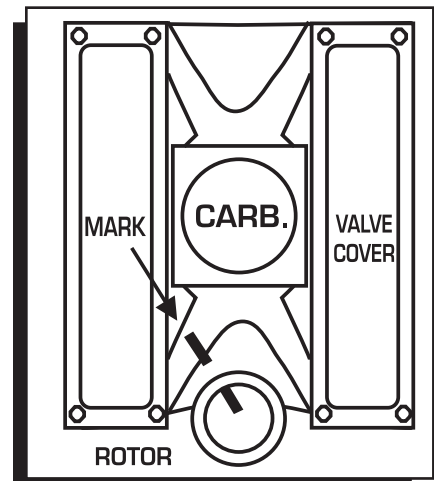

Figure 1 Marking the Rotor Location.
2. With the cap off, crank the engine until the rotor is aimed at a fixed point on the engine or firewall. Note this position by making a mark (Figure 1).